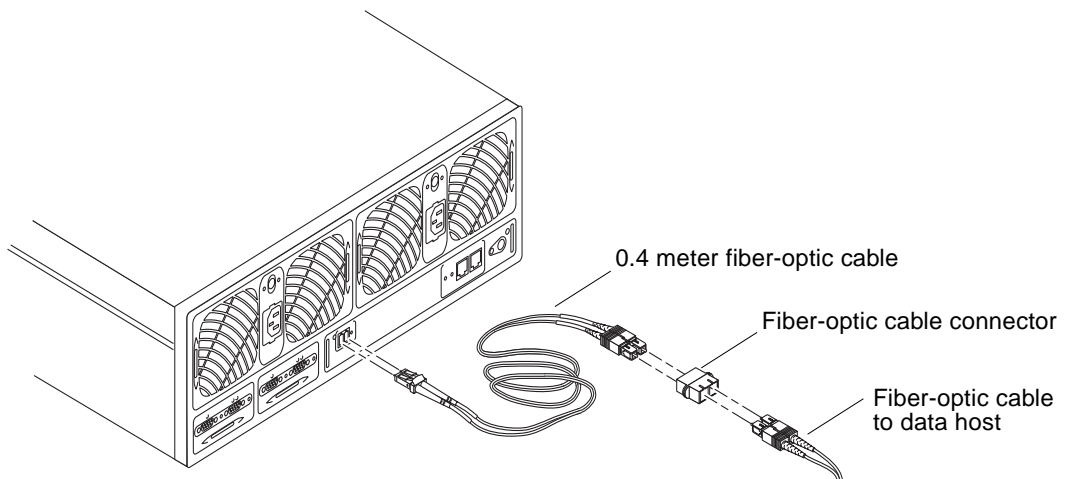

FIGURE 1-6 Fiber-Optic Cable Connection to Array Controller Card Upgrade
7. Insert the new 0.4 meter fiber-optic cable in the FC-AL connector on the new controller card, as shown in FIGURE 1-6.
8. **Connect the fiber-optic cable from the data host to the 0.4 meter fiber-optic cable using the cable connector from the upgrade kit (FIGURE 1-6).**